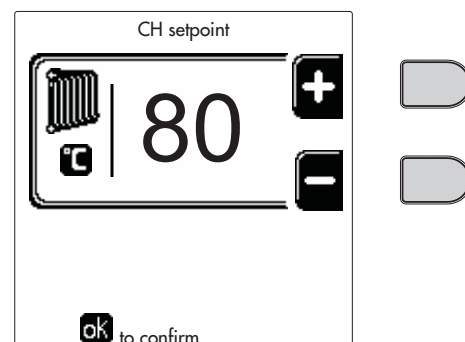
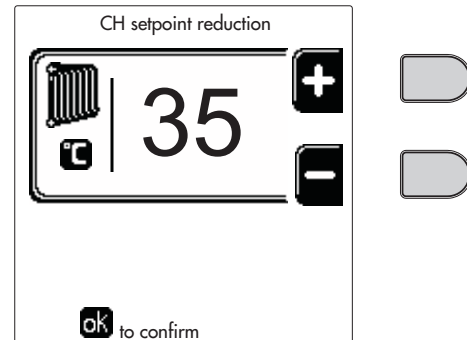
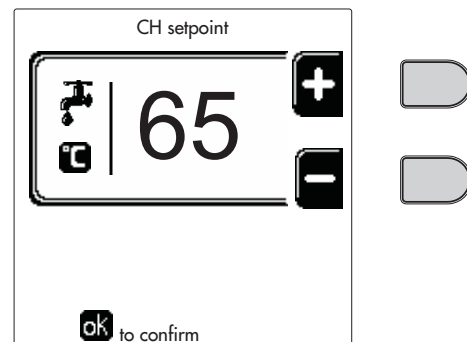
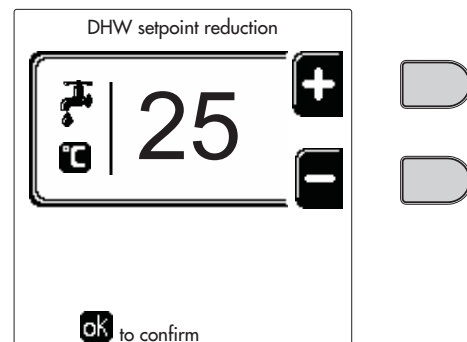

fig. 13
fig. 14
fig. 15
fig. 16
- **ON**. In case of a Heating/DHW request, the boiler works at the set Heating/DHW Adjustment Temperature (fig. 13/ fig. 15).
- **••**. In case of a Heating/DHW request, the boiler works at the Reduced Adjustment Temperature. The Reduced temperature is obtained by subtracting the Reduction Adjustment Temperature (fig. 14/fig. 16) value from the set Heating/DHW Adjustment Temperature (fig. 13/fig. 15).